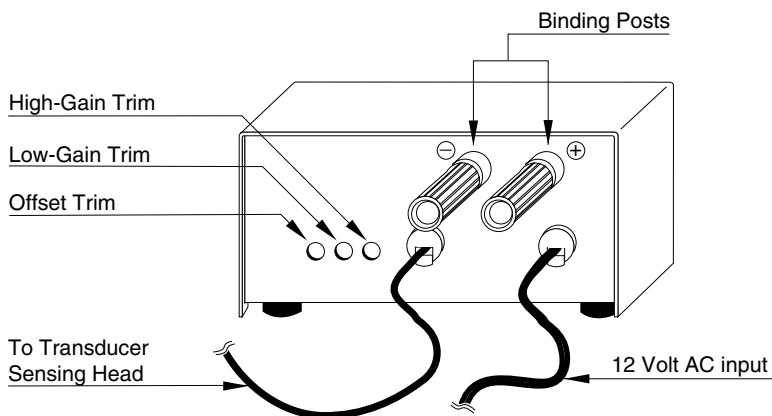

Figure 3. Electrical Output
On the rear panel of the power supply are three small access holes to the trim pots. (See Fig. 3) The high and low gain trim pots are used to adjust the range. The right-hand trim pot is factory set to deliver 2.0 VDC for 50 gram. The center trim pot is factory set to deliver 2.0 VDC for 500 gram. Either can be adjusted to deliver more or less output as conditions dictate.
- Binding post are provided on the power supply for output connections. Red is positive (+); black is negative (-) and also ground. (See Fig. 3)